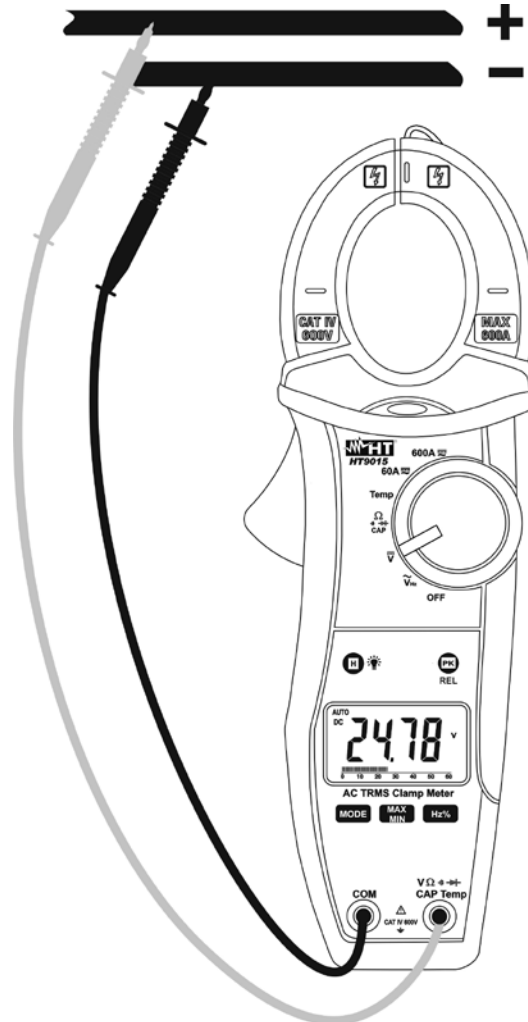

Fig. 4: Taking DC voltage measurements
2. Insert the red test lead plug into $V\Omega Hz \%Temp$ jack and the black test lead plug into **COM** jack (Fig. 4)